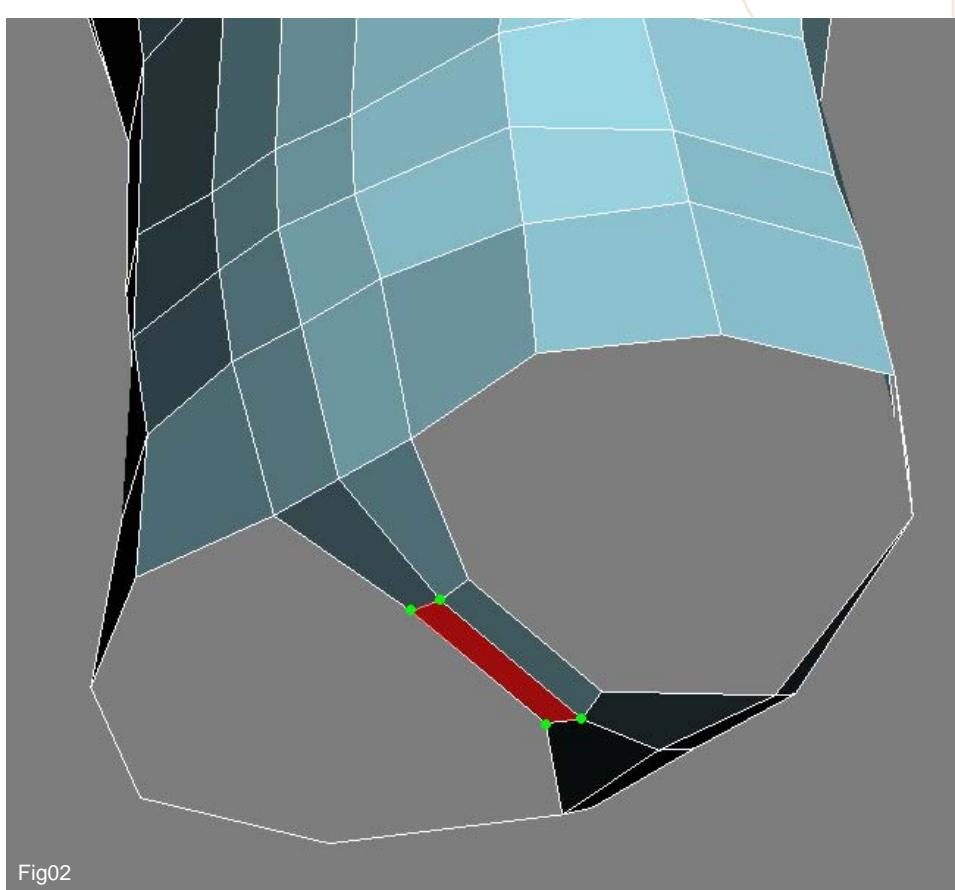

Fig02
2. In the next step move these edges inwards and join them together with another poly in between as indicated by the red poly in Fig02. This will now form two holes from which we will extend the legs. You can do this by either using "Create" in poly mode or simply target weld one edge to the other and then add in a new edge using the "Ring / Connect" tools. Either way is fine.